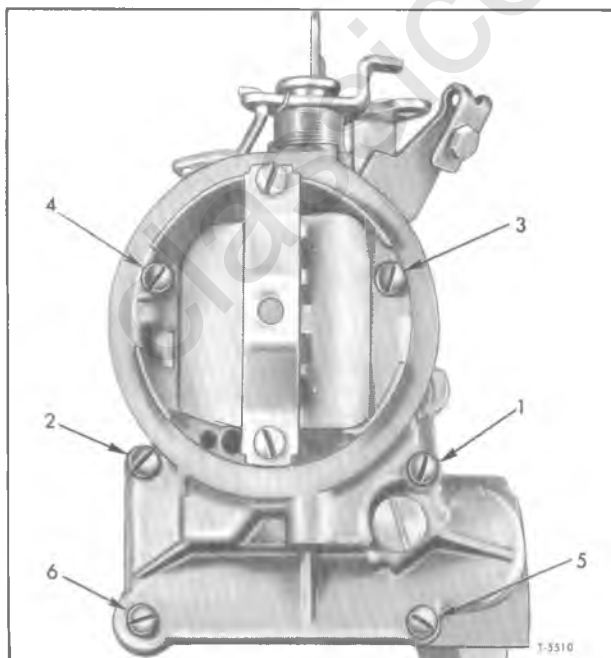

Figure 20—Tightening Sequence (Air Horn)
11. Install air horn to float bowl by lowering gently on to float bowl until seated. Install three long and three short air horn to float bowl attaching screws. Tighten screws securely using correct tightening sequence as shown in figure 20.